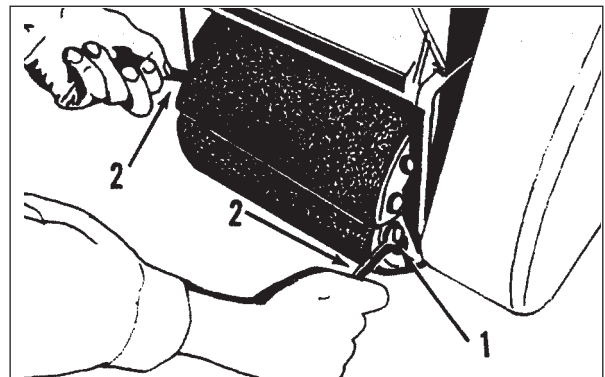

Figure 4
Put a wrench around the nut at each end of the drum (1). See figure 4.
3. Turn the wrenches the opposite rotation until the abrasive is tight against the drum (2). See figure 4.